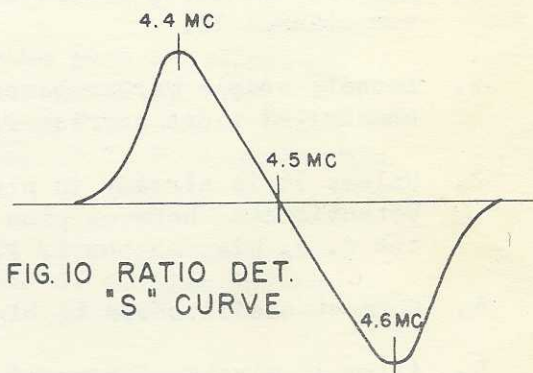

FIG. 10 RATIO DET. "S" CURVE
7. Adjust the top slug of the Ratio detector transformer for the crossover to be at the 4.5 mc. marker as shown in the curve, Fig. 10. The sweep input should be kept as low as possible to prevent overloading.